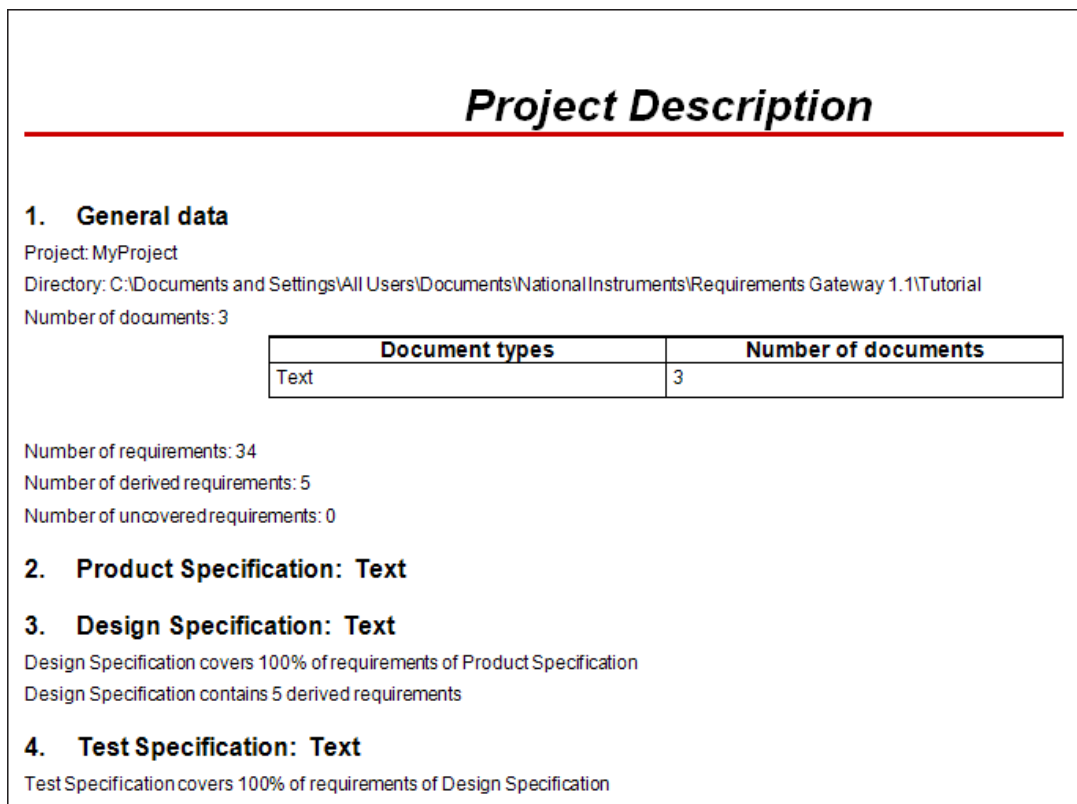

Figure 4-1. Project Description Report
3. Browse to the <Requirements Gateway Public>\Tutorial directory, enter ProjectDescription in the **File name** control, and click **Save**. Requirements Gateway generates and displays the report in Microsoft WordPad or Microsoft Word, as shown in Figure 4-1.